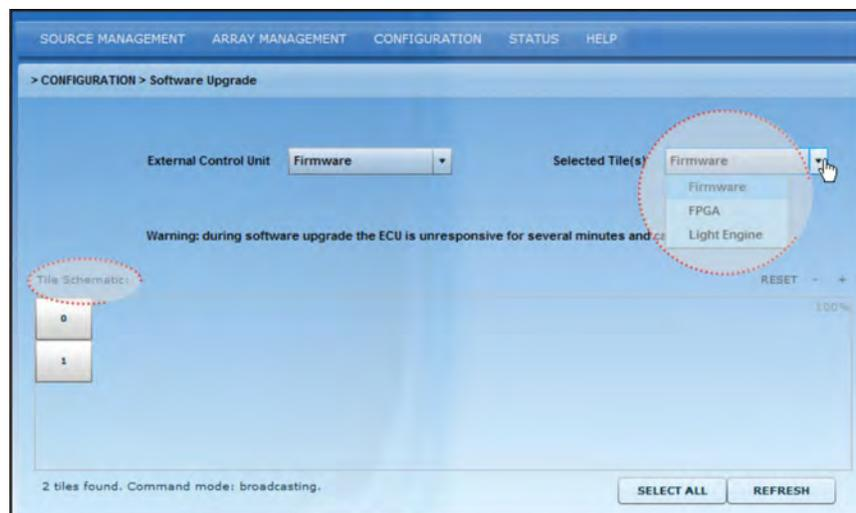

Figure 3-32 Upgrading Selected Tile(s)
2. Through the Software Upgrade screen (**Figure 3-32**) users can choose to upgrade the software or hardware of the ECU or a group of selected Christie MicroTiles. For information on hardware upgrades, refer to 3.10.4 Hardware Upgrades, on page 3-32.
3. If you upgrade the Christie MicroTiles ensure the specified tiles are selected in the **Tile Schematic** section of the user interface. Select **Firmware**, from the **Selected Tile(s)** drop-down menu (**Figure 3-32**).